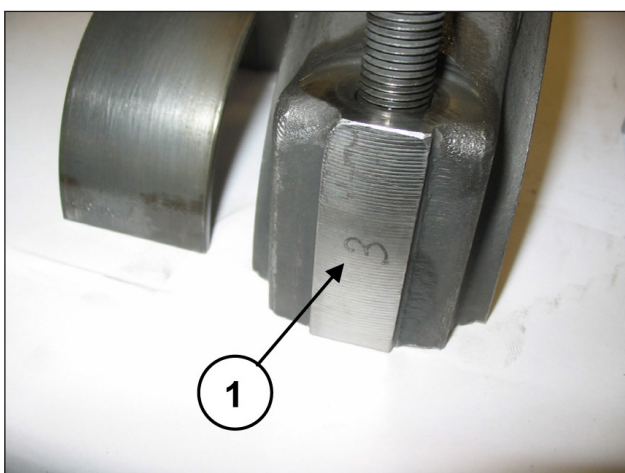

Fig. 18
To avoid possible errors, caps and half supports have been numbered on one side (pos. ①, Fig. 18).